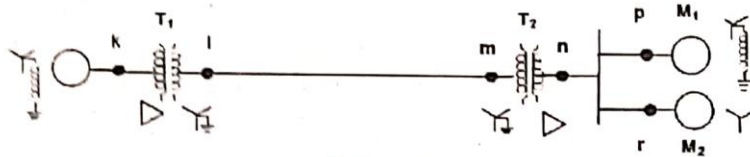

Figure. 1
11. (a) 300 MVA, 20 kV three-phase generator has a subtransient reactance of 20%. The generator supplies a number of synchronous motors over 64-km transmission line having transformers at both ends, as shown in Figure.1 All motors are rated as 13.2 kV and represented by just two equivalent motors. Rated inputs to the motors are 200 MVA and 100 MVA for M1 and M2, respectively. For both motors $X'' = 20\%$. The three phase transformer T1 is rated 350 MVA, 230/20 kV with leakage reactance of 10%. Transformer T2 is composed of three single-phase transformers each rated 127/13.2 kV, 100 MVA with leakage reactance of 10%. Series reactance of the transmission line is $0.5 \Omega/\text{km}$. Draw the impedance diagram, with all impedances marked in per-unit. Select the generator rating as base in the generator circuit. (13)